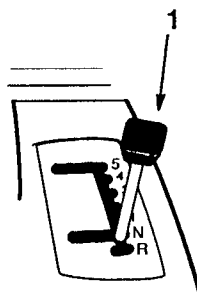

Figure 7
3. Move the ground speed selector into neutral “N” (Fig. 7).